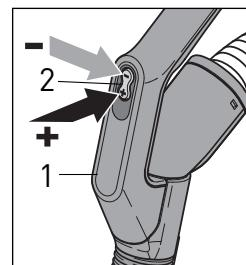
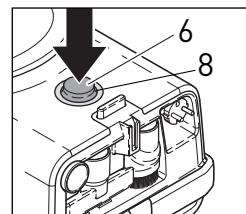

Figure 4
Figure 5
3. Grip the handle of the hose (1) with your thumb over the power control rocker (#2, figure 4).
5. If the canister powers up as soon as you plug it in, note that the blue LED light (8) around the on/off button (6) will pick up speed as the suction on the canister increases (figure 5). It will reach full power in a few seconds.
6. If the canister does not power up as soon as you plug it in, gently press the on/off button on the canister (6) with your hand or foot.
7. Press the (-) on the power control rocker (2) to decrease the suction or the (+) to increase the suction on the canister (figure 4). You can press the rocker several times or hold it down steadily until you reach the suction desired.
8. If you continue to press the (-) you will eventually put the canister in stand-by mode. Stand-by mode means that the canister is plugged in, but not running. Note that when the canister is in stand-by mode, the blue light (8) around the on/off switch on the canister blinks back and forth.
10. **BEFORE PROCEEDING WITH FURTHER ASSEMBLY AND USE,** turn off the vacuum with the on/off button on the canister (6) AND unplug the unit from the wall outlet.